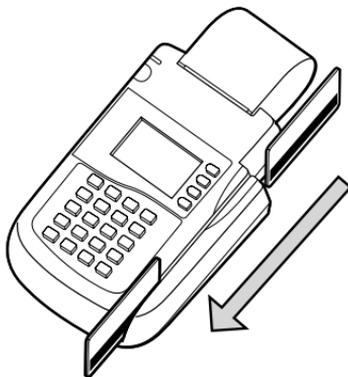

Figure 6 Using the Magnetic Stripe Card Reader
- A **magnetic stripe card reader**, built in to the right side of the terminal. A graphical icon, shown to the right, indicates the proper card position and swipe direction (see Figure 6).